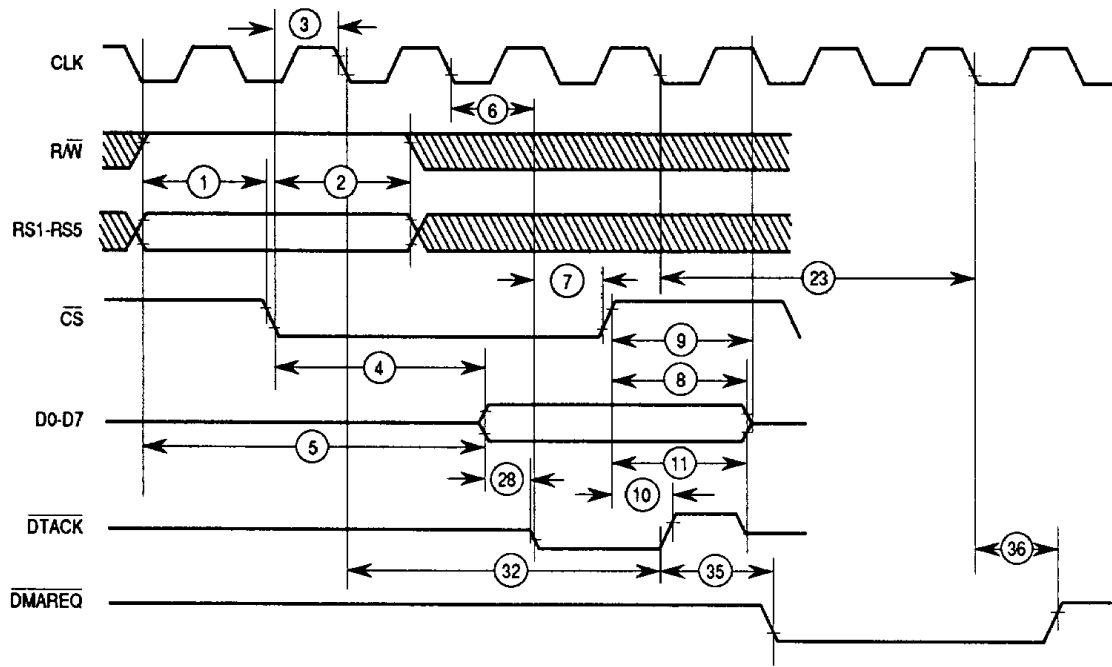

Figure 5. Read Cycle Timing Diagram
**AC ELECTRICAL SPECIFICATIONS** ( $V_{CC} = 5.0 \text{ Vdc} \pm 5\%$ ;  $GND = 0 \text{ Vdc}$ ;  $T_A = 0^\circ\text{C}$  to  $70^\circ\text{C}$ , unless otherwise noted; see Figures 5–10)